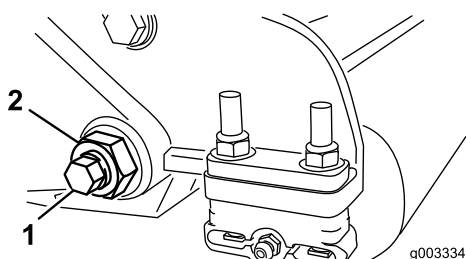
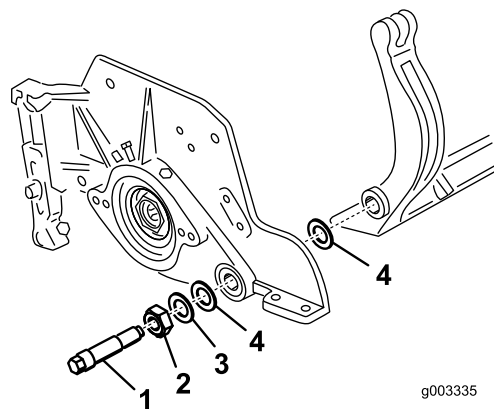
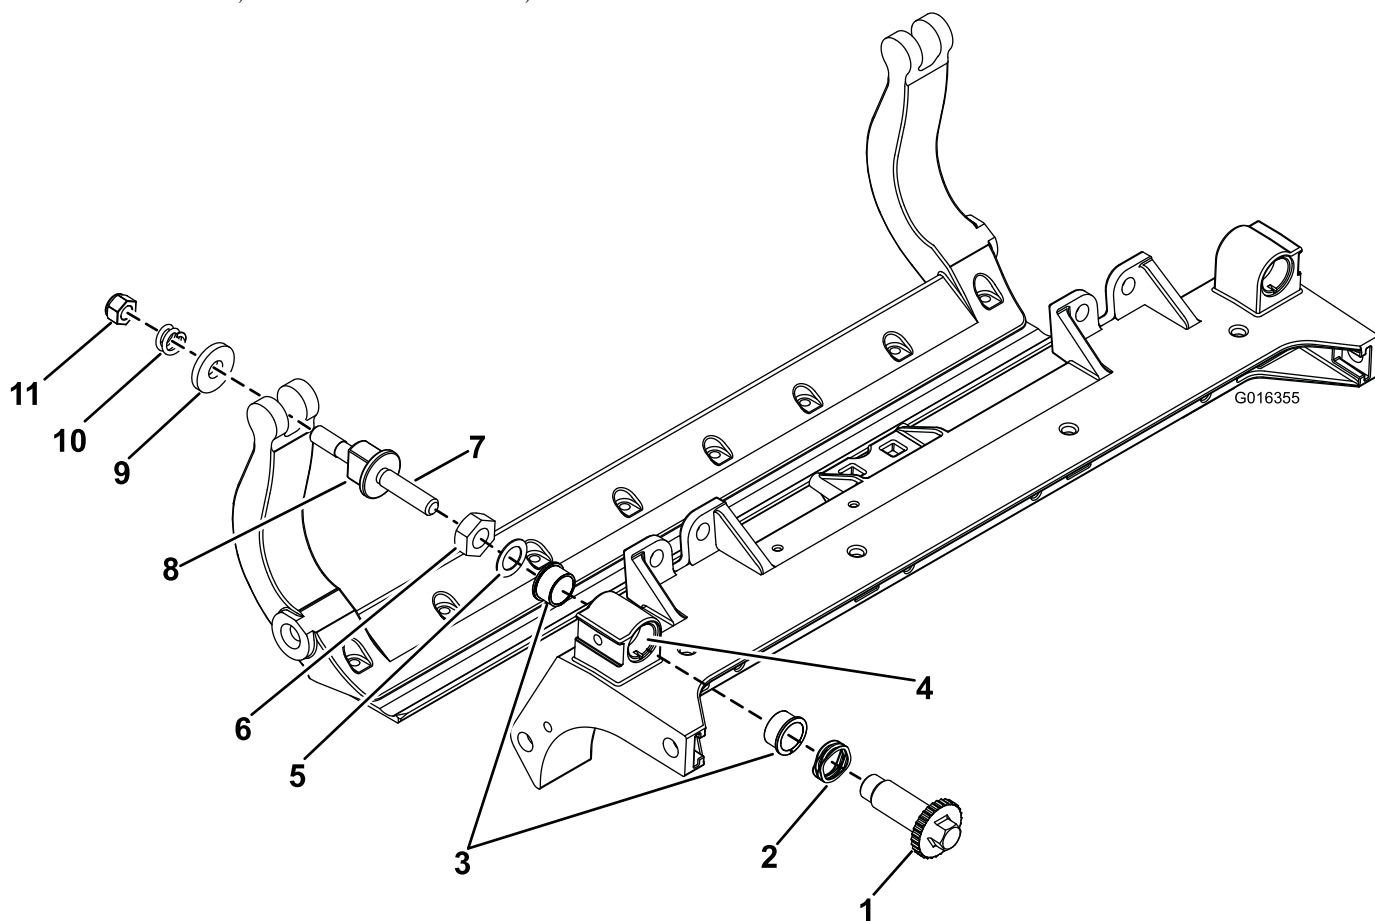

Figure 27
Figure 28
Figure 30
3. On each side of the machine, loosen the locknut securing the bedbar bolt (Figure 27).
4. Remove each bedbar bolt allowing bedbar to be pulled downward and removed from machine bolt (Figure 27). Account for 2 nylon and 1 stamped steel washers on each end of bedbar (Figure 28).
2. Secure bedbar to each side plate with bedbar bolts (nuts on bolts) and 6 washers. A nylon washer is to be positioned on each side of side plate boss. Place a steel washer outside each of the nylon washers (Figure 28). Torque bedbar bolts to 27-33 (37-45 N-m). Tighten locknuts until the outside steel washer stops rotating and end play is removed but do not overtighten or deflect side plates. Washers on inside may have a gap.
1. Remove all parts (refer to *Installation Instructions* for HD DPA Kit Model No. 120–7230 and to Figure 30).
2. Apply Never Seize to the inside of the bushing area on cutting unit center frame (Figure 30).
3. Align the keys on flange bushings to the slots in the frame and install the bushings (Figure 30).
4. Install a wave washer onto the adjuster shaft and slide the adjuster shaft into the flange bushings in the cutting unit frame (Figure 30).
5. Secure the adjuster shaft with a flat washer and lock nut (Figure 30). Torque the lock nut to 15 to 20 ft-lb (20 to 27 N-m).
9. Secure the bedbar to each side plate with the bedbar bolts (nuts on bolts) and 6 washers. A nylon washer is to be positioned on each side of side plate boss. Place a steel washer outside each of the nylon washers (Figure 30). Torque bedbar bolts to 27-33 ft.-lb (37-45 N-m). Tighten locknuts until the outside steel washer stops rotating and end play is removed but do not overtighten or deflect side plates. Washers on inside may have a gap (Figure 28).